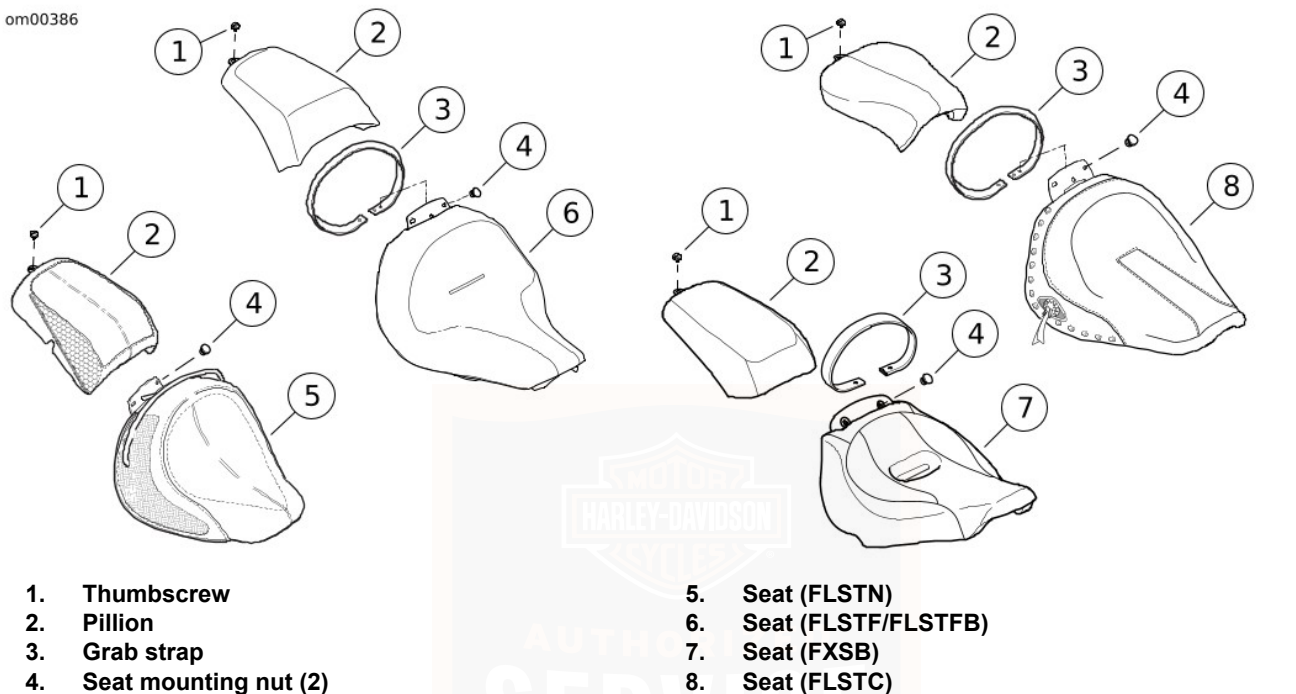

Figure 57. Seat: FLSTN/FLSTF/FLSTFB/FXSB/FLSTC
1. See Figure 57. Remove the thumbscrew (1).
2. Remove the passenger pillion (2).
3. Remove mounting nuts (4).
5. Remove grab strap (3).
1. See Figure 57. Install seat strap (3) on the mounting posts on rear fender.
3. Install rear of seat on the mounting posts on rear fender. Install mounting nuts (4) and tighten.
4. Slide slots on passenger pillion (2) to engage the seat mounting nuts.
5. Install thumbscrew (1) and tighten.